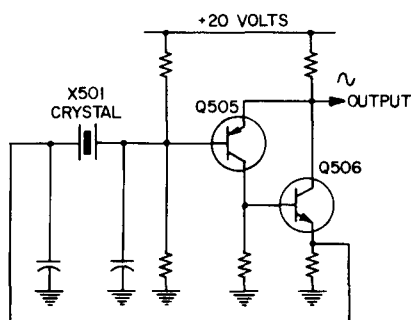

Figure 3-3. Simplified circuit diagram of the 100-kc crystal oscillator used in the Type 1150-A Digital Frequency Meter.
**3.5.1 CRYSTAL OSCILLATOR.** Figure 3-3 is an elementary circuit diagram of the 100-kc crystal oscillator in the Type 1150-A Digital Frequency Meter. Transistors Q505 and Q506 provide the gain and the proper terminal impedance for the modified-Pierce crystal oscillator. All of the 60-db, open-loop gain of this transistor pair is used as negative feedback. This results in very stable circuit gain with